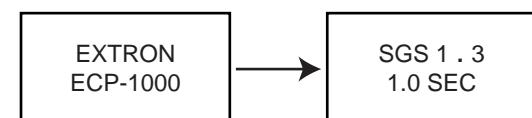

Figure 3-2 — Power-up screens
- The LCD displays the name of the product, and then displays the attached screens (based on the connected ports) and the default effect duration (figure 3-2). This second screen is the default screen.